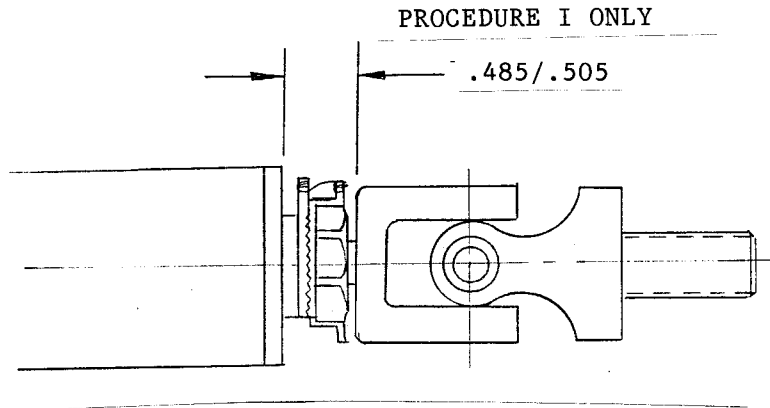
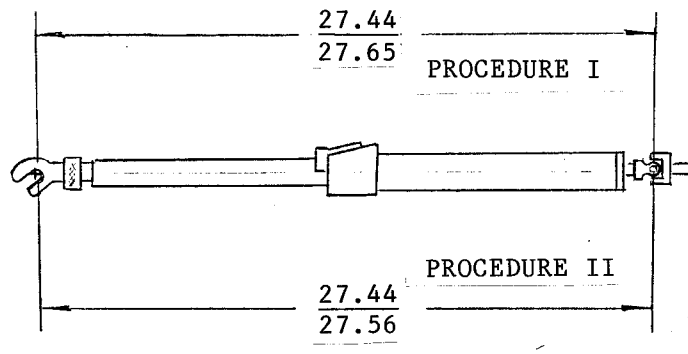

FIGURE 1A - MINIMUM DISTANCE BETWEEN
FIGURE 1B - OVERALL LENGTH
- (4) Adjust universal by cutting safety wire on lock washer and loosening jam nut. Pull lock washer back from face of outer tube to disengage locking tab. Adjust universal to the 0.485/.505 inch dimension shown in Figure 1A.
- (6) After adjustment check that the length of the rod is 27.44 to 27.65 inches extended and locked under compressive load. The length should be measured from the center of the universal pivot to the center of the coupler opening, per Figure 1B, Procedure I. If necessary, readjust the length by repositioning the universal assembly. Do not position the universal beyond the 0.485/.505 inch dimension shown in Figure 1A.
- (7) Safety wire the lock washer to the retaining device with MS20995C32 safety wire.
- (8) Clean area immediately following NORCO P/N A6201-2 or A6201-3 by rubbing with wiper damped with Aliphatic Naphtha, TT-N-95, or equivalent, until soil is removed. Do not allow solvent to evaporate. Avoid removing pretreatment or finish coating. After soil is removed, wipe the area dry with a clean dry wiper. Using rubber stamp letter size 1/8" to 3/16" and Alcosol or F-100 stamp pad ink, or equivalent, apply the letter "C" immediately following the dash number. Clean stamp with naphtha, or equivalent, as required, for mark legibility and sharpness.
- (5) Push inner tube back through end of outer tube. Apply Loctite No. 620 to threads of new couplex, part number CL2739-9H, and screw into end of inner tube. Torque to 300 in.lbs. Stake inner tube to couplex at three points on O.D. of inner tube at a distance of 0.25 inches from the face of the inner tube. The staking tool should produce an area of indentation approximately 0.060 by 0.20 inches.
- (6) Apply Loctite No. 620 to threads of outer tube end fitting and screw into end of outer tube. Stake outer tube at three points on O.D. at a distance of 0.31 inches from the face of the end fitting. The staking tool should produce an indentation approximately 0.060 by 0.020 inches.
- (7) Screw universal assembly into outer tube end fitting and set the length of the rod to 27.44 to 27.56 inches extended and locked under compressive load. The length should be measured from the center of the universal pivot to the center of the couplex opening, per Figure 1B, Procedure II.